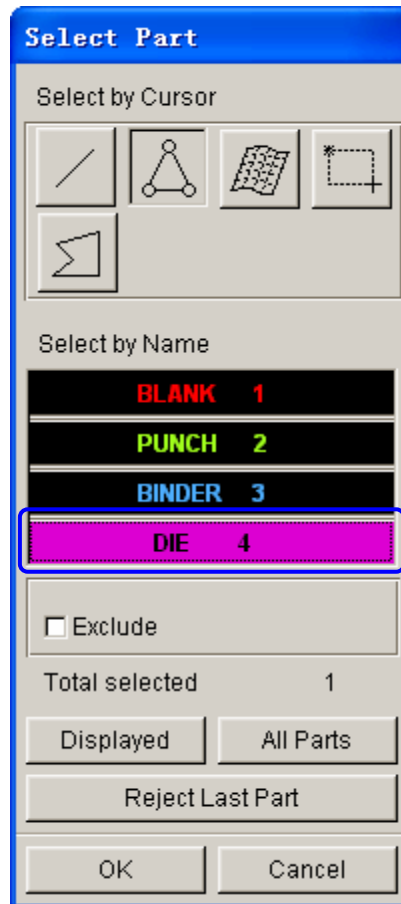

Figure 2.27 Select part dialog box
12. The program pops up the SELECT PART dialog box illustrated in Figure 2.27. From the list, use your mouse cursor to pick DIE part.